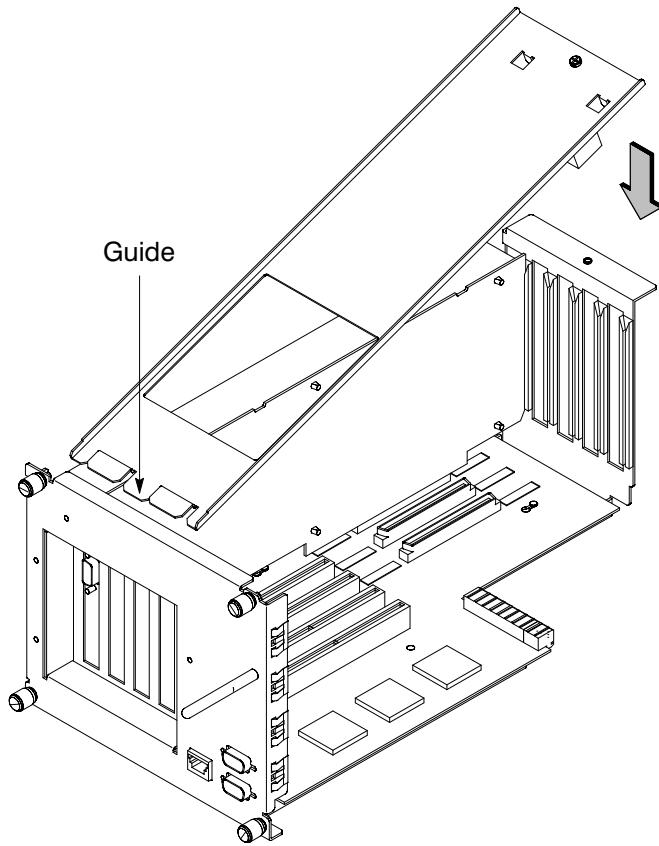

Figure A-37. Replacing EISA Assembly Cover
- 7.** Insert cover in guide and secure with screw. Refer to Figure A-37.